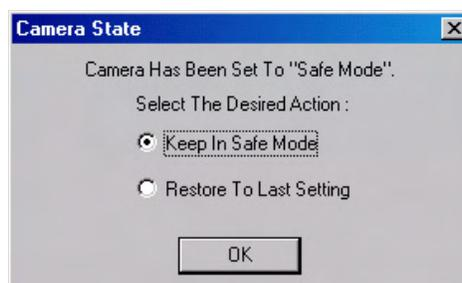

Figure 34. Camera State Dialog Box
**Note:** The gate functions of the PI-MAX camera are controlled by the PTG. If the system is equipped with a PI-MAX camera, the Camera State dialog box (Figure 34) **will appear after the controller has been turned on and the software is started.**